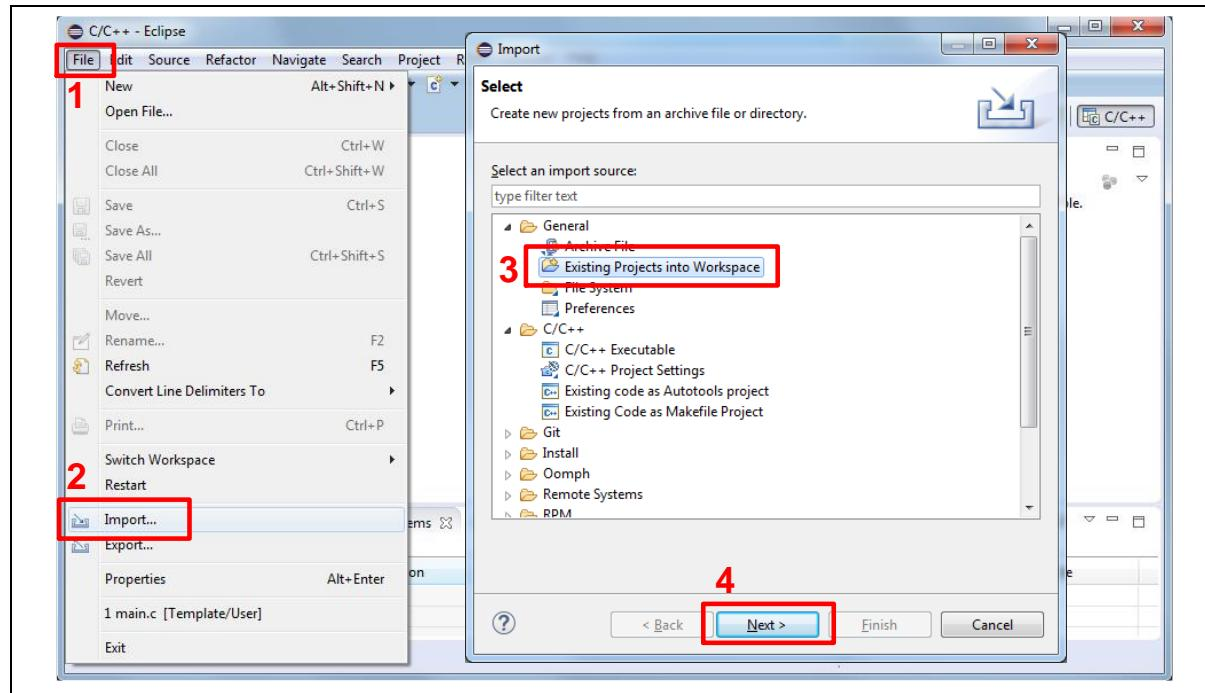
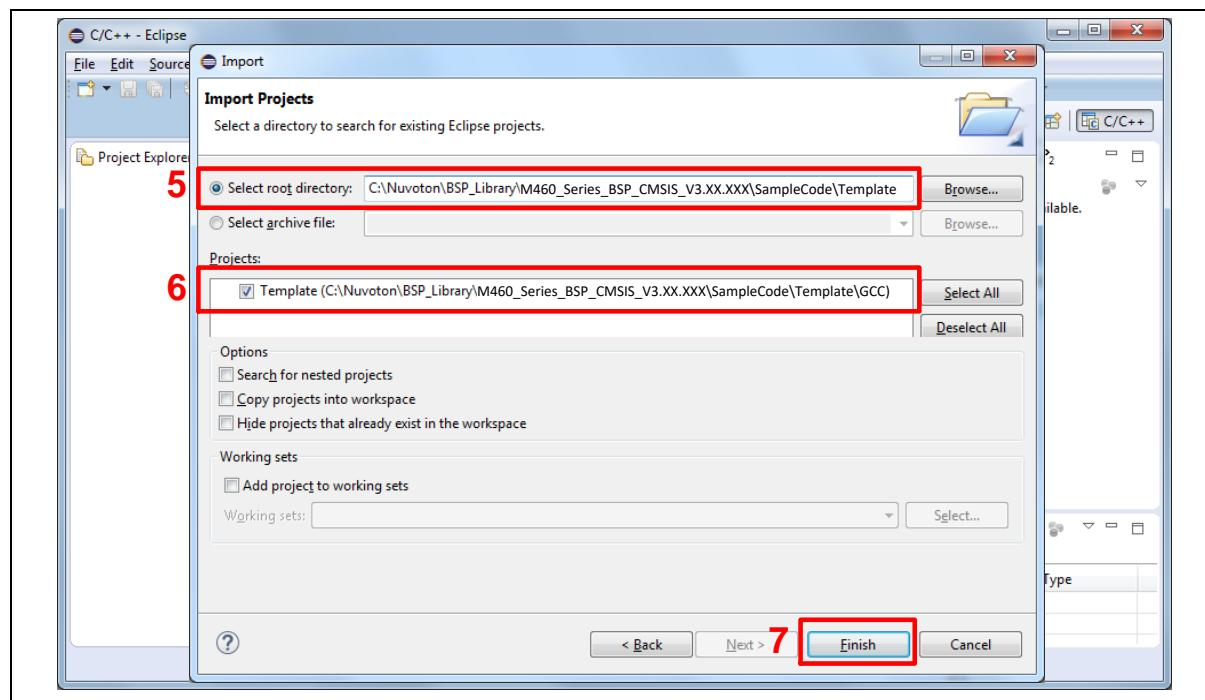

Figure 5-19 Import the Project in NuEclipse
Figure 5-20 Import Projects Windows
2. Import the “Template” project by following the steps presented in Figure 5-19 and Figure 5-20.